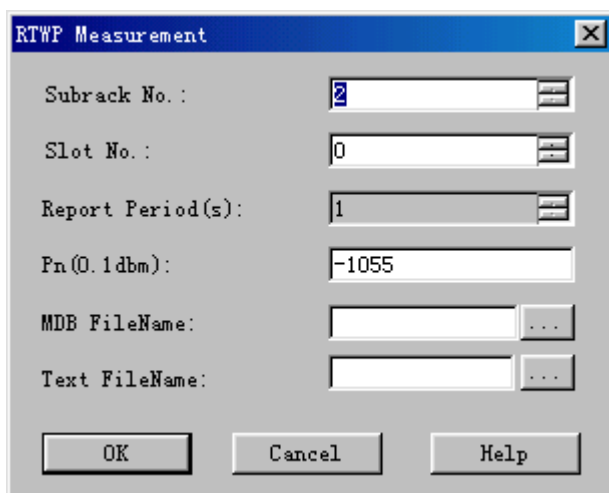

Figure 9-3 RTWP Measurement dialog box
- 2) Click **Create Monitor Task**. The system displays the **RTWP Measurement** dialog box, as shown in Figure 9-3.
- 2) Click **Create Monitor Task**. The system displays the **Clock Test** dialog box, as shown in Figure 9-3.